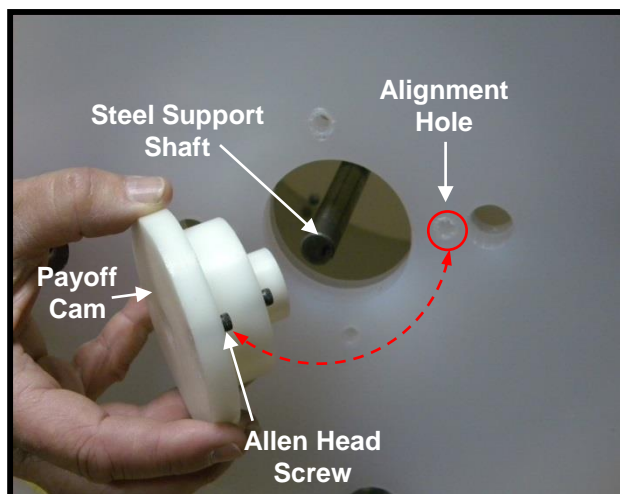

Figure 20
9.2 Install two Reel Payoff Cams into fiber reel bushings and insert the Steel Shaft through center of Payoff Cams. **See Fig. 20.**